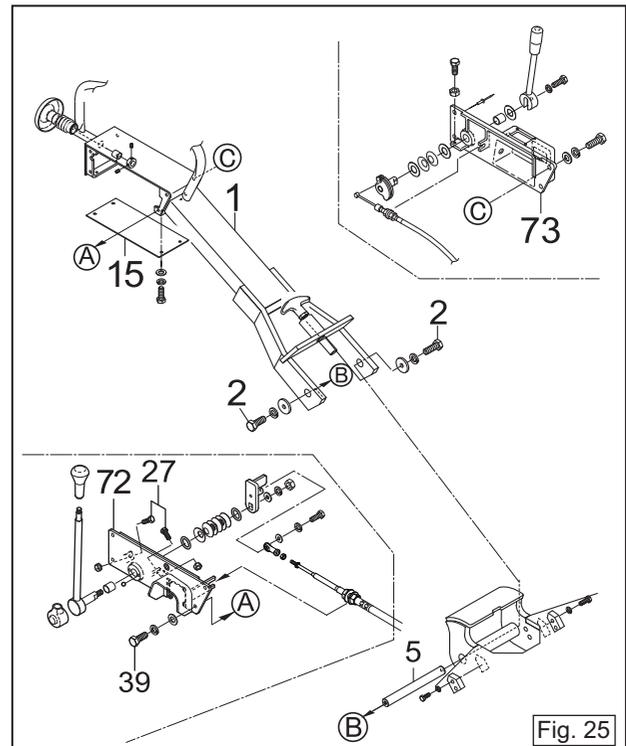

Fig. 25
(1) Disassembly (Fig. 25)
(2) Assembly (Fig. 25)